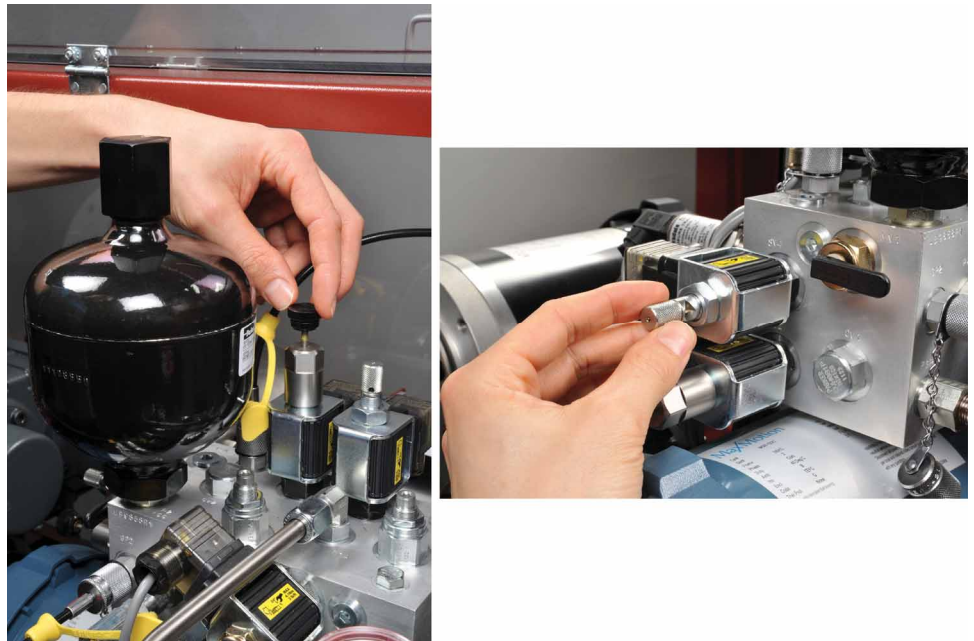

Figure 2-58. Releasing the parking brake manually.
44. Release the parking brake manually. To do so, screw the knob of valve SV6 completely and then rotate the knob of valve SV4 by a quarter turn, as shown in Figure 2-58.